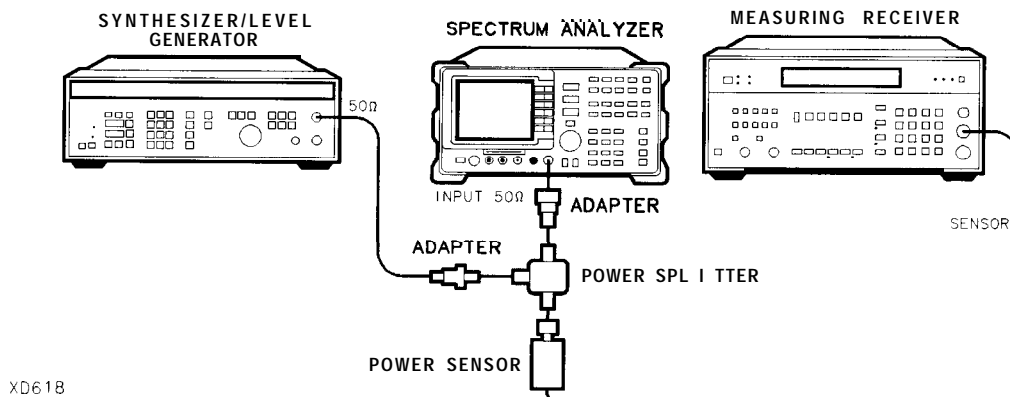

Figure 2-33. Frequency Response Test Setup, <50 MHz
18. Connect the equipment as shown in Figure 2-33, with the power sensor connected to power splitter.